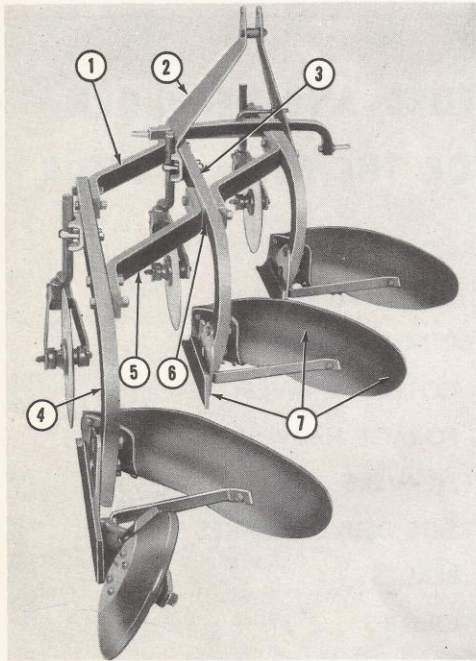

Figure 33
To add a third bottom to the 14" plow as shown in Figure 33, remove the rear bottom and rolling land-side from the beam (3) and attach it to the third beam (4). Attach the third bottom (7) to the center beam (3), Figure 33. Attach the beam (4) to the beam (3) with the braces (1) and (5) as shown in Figure 33. Use a spacer (6) between the beam (3) and the brace (5).
For the conversion of the 12" two bottom plow frame to a three bottom frame, the spacer (6), Figure 33, is also used between the brace (1) and the beam (3).